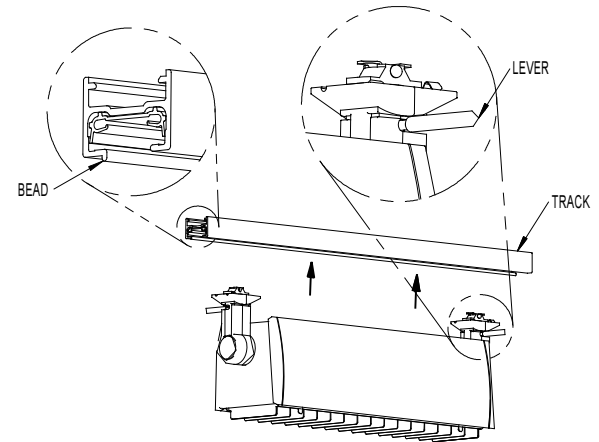

Fig. 2
3. Position LEVERS as shown in Fig. 2.
4. Insert ADAPTERS into TRACK as shown in Fig. 2.